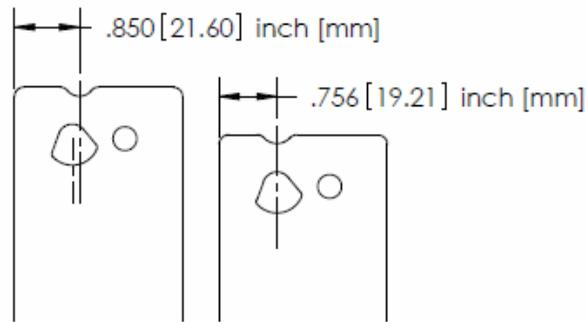

FIGURE 1
10. Wait 5-10 minutes and allow the gaskets to relax before re-torquing. Check each nut, per Figure 1 or 2 sequences, using the torque wrench at its set point torque value.